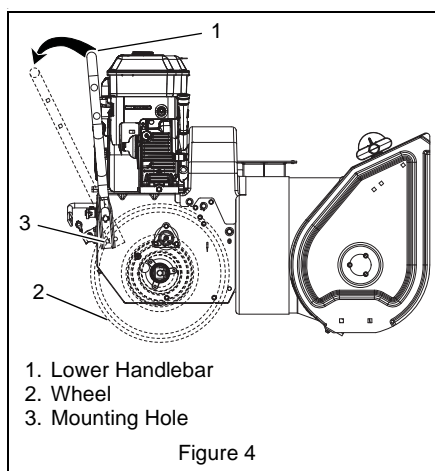

Figure 4
(Figure 4)
1. Rotate lower handlebar out from unit so lower handlebar mounting holes align with mounting holes on the unit frame (Figure 4).